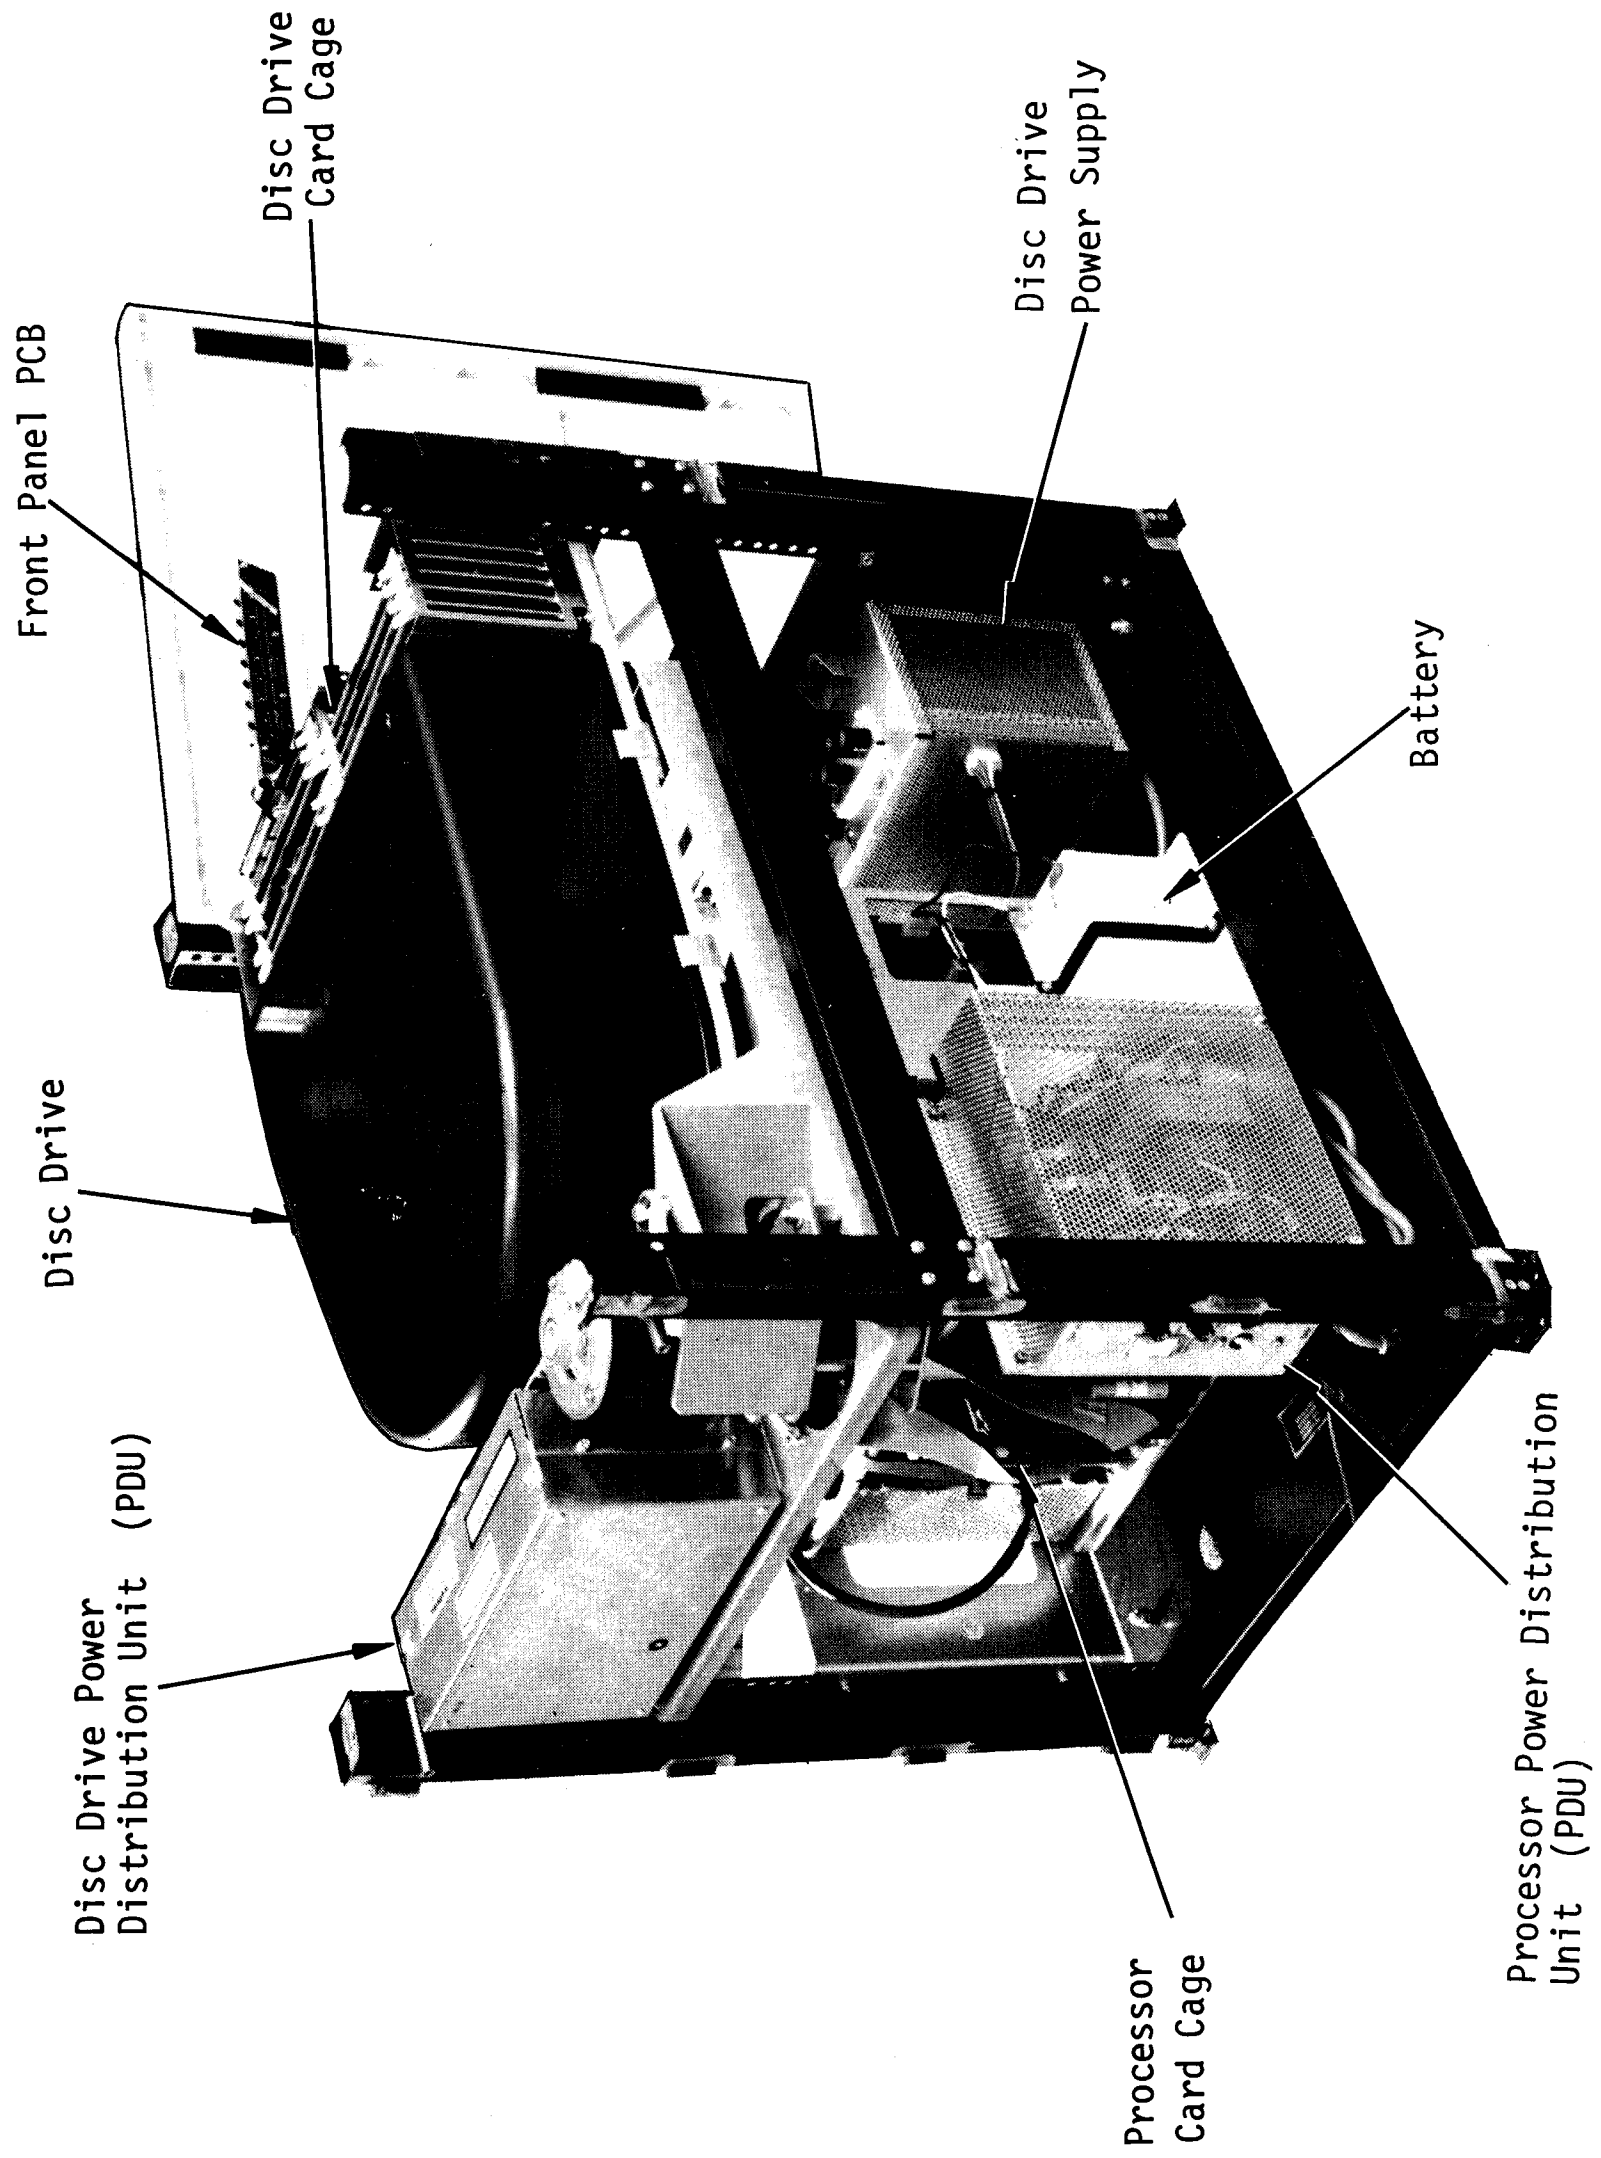

Figure 2-8. Processor/Disc Drive Cabinet, Major Assemblies
Note: See Figure 2-8 for description of numbered call-outs (9 and 10)
1. Connect both battery wires to the battery; white wire to minus (-), black wire to plus (+). The location of the battery within the Processor/Disc Drive Cabinet is shown in Figure 2-8.
1. The Disc Drive Power Supply is located directly behind the Processor/Disc Drive Cabinet front door (see Figure 2-8). The Disc Drive Power Supply is mounted on hinges that allow it to swing out.